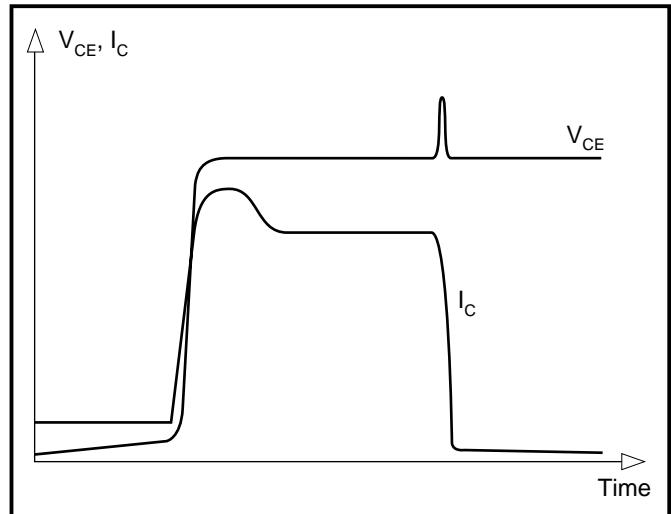

Fig. 4 Typical waveforms of  $I_c$  and  $V_{ce}$  of IGBT being switched into a short circuit
- ii) When a short circuit appears whilst the device is already conducting (see fig 4).